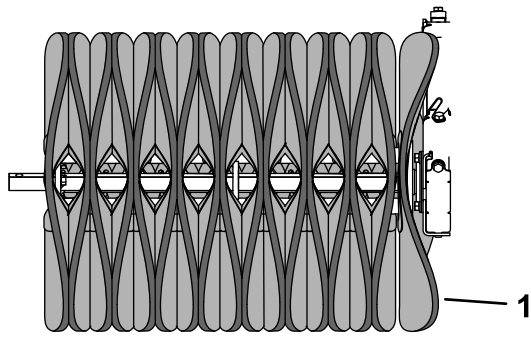

**Figure 26**
- With the bristles curved toward the center of the broom, slide the new center brush onto the axle so that the prongs straddle 1 of the rods (Figure 26).
- Slide a brush onto the axle so that the prongs straddle an adjacent rod and curve away from the center brush (Figure 26).
- Slide the next brush onto the axle, with the brush rotated so that the pins straddle the third rod and the curves are opposite to the previous brush (Figure 26).